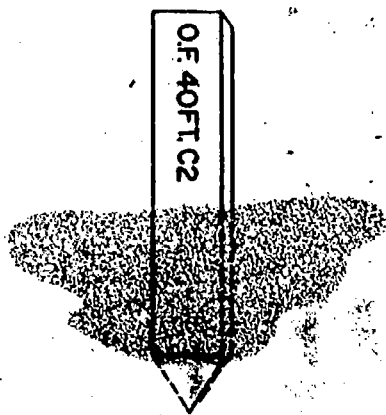

Fig 3-14. Offset stake.
e. Offset stakes. Grade stakes that are set out of the way of the excavation are called offset stakes (fig 3-14). The markings on an offset stake identify the distance of the stake from the centerline of the construction and the cut or fill data to finish centerline grade. In figure 3-14, for example, the markings on the stake indicate that the stake is offset (OF), that the stake is 40 feet from the centerline of construction and that the area directly in line with the stake, inside the construction area, is to be cut 2 feet. During earthmoving operations, center stakes may be dug out or covered up; offset stakes may be used as reference control points in reestablishing the centerline of the construction. They are also used to indicate the banked portion of a curve which lies above the regular grade.